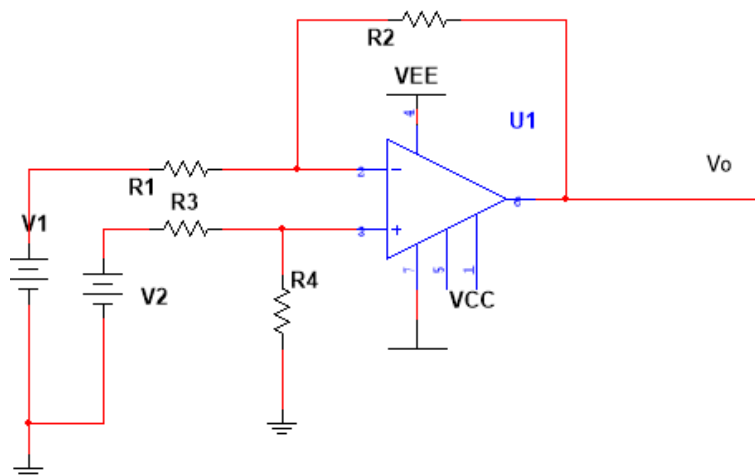

Fig 2.6: Op-amp as Difference amplifier
2. The circuit is set-up as shown in figure 2.6. The supply voltage $\pm V_{CC}$ is set at $\pm 12V$.